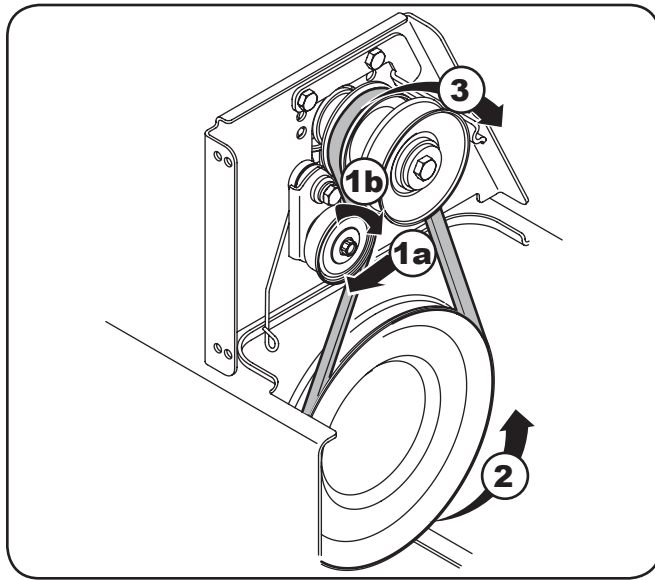

Figure 7-8
1. Use a wrench to rotate the idler pulley away from the backside of the drive belt to relieve the tension and slip the drive belt off the idler pulley. Carefully release the idler pulley. See Fig. 7-8.